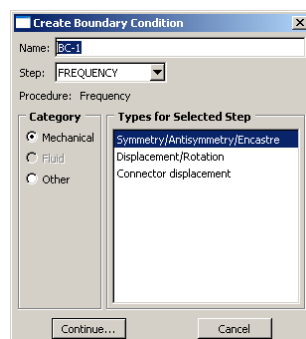
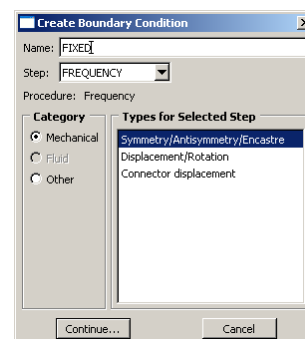

Figure 22a. Create BC
Figure 22b. Create BC (FIXED)
- Double click **BCs** in the model tree and the **Create Boundary Condition** dialog box will appear (Figure 22a). Create a **Name:** for the boundary condition called **FIXED**, and under the **Step** drop down menu make sure to choose **FREQUENCY**. Under the **Category** option choose **Mechanical**, and choose **Symmetry/Antisymmetry/Encastre** under the **Types for Selected Step** option. The **Create Boundary Condition** dialog box should look identical to that in Figure 22b.